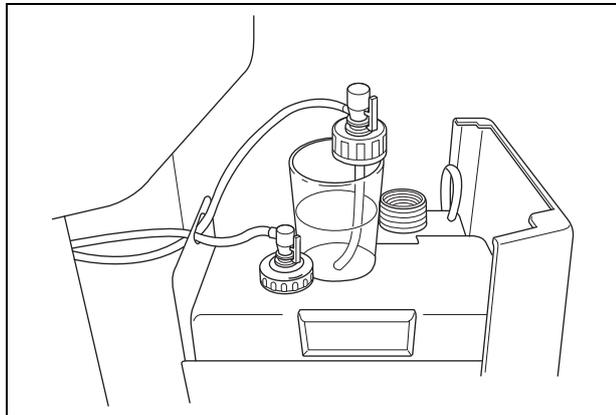

Figure 7.95
9. Put the detached cap in the container filled with the disinfectant solution (see Figure 7.95).